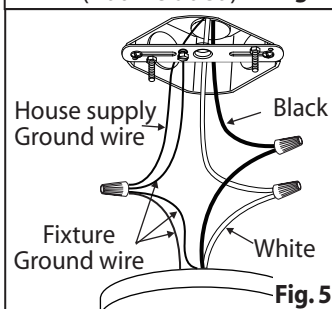

Fig. 5
5. Connect the ground wires (bare copper or green) from your fixture to the ground wire (bare copper or green) or ground screw in the electrical outlet box. Attach the black wire (or wire marked "SPT-1") from the light fixture to the black wire in the electrical box. Attach the white wire from the light fixture to the white wire in the electrical box. Once connections of wires are completed, carefully tuck wires and wire nuts into the outlet box making sure no bare wire (on the black and white) is visible at the wire nuts. (Fig. 5)